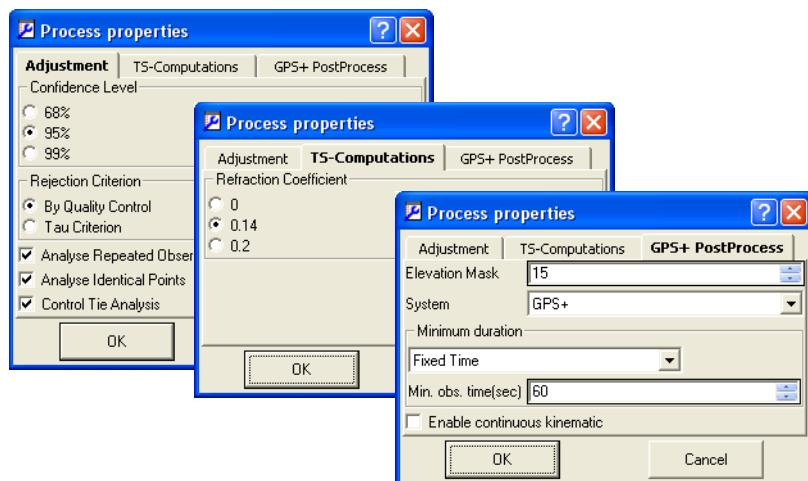

Figure 6-1. Process Properties
- Confidence level for the adjustment process: either 68%, 95%, or 99% (Figure 6-1). The default confidence level is 95%.
- On the *TS-Computations* tab, select the refraction coefficient: either 0, 0.14, or 0.2 (Figure 6-1). The default is 0.14.
- On the *GPS+ PostProcess* tab, select the elevation mask, combination of navigation system, and minimum observation time for the processing (Figure 6-1).
By default, the display and processing of GPS kinematic data is turned off. To display and process GPS kinematic data, select the “Enable continuous kinematic” checkbox on the *GPS+ PostProcess* tab (Figure 6-1). This tab can be accessed in either the *Job Configuration* or *Process properties* dialog boxes.